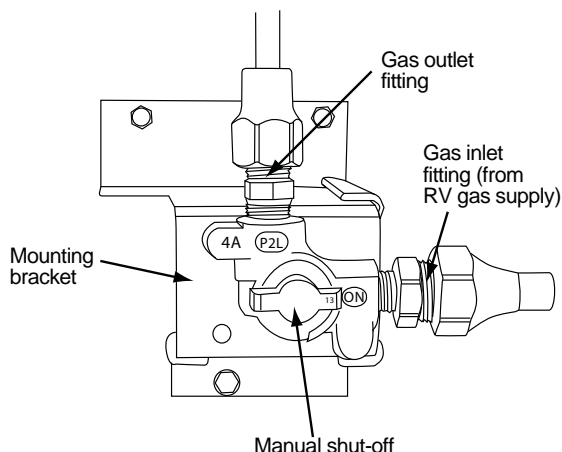
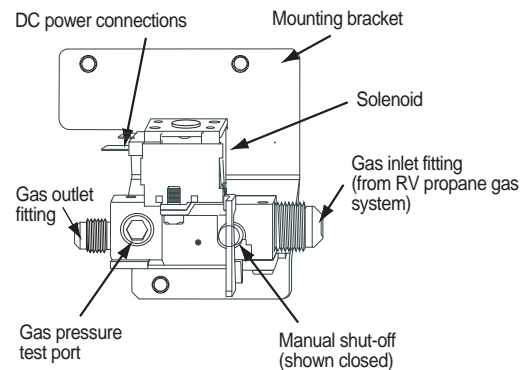

Figure 18. N500 manual shutoff valve
Figure 22. N41X/N51X solenoid gas valve
The manual shutoff valve controls the flow of propane gas from the RV propane supply to the gas valve-thermostat assembly. See Figure 18.
The solenoid gas valve, shown in Figure 22, controls the flow of gas from the RV gas supply to the burner. Integrated in the valve's body are a manual shutoff and pressure tap. The valve's manual shutoff is a spring-loaded, quarter turn, manually operated valve.
**For Steps 3 - 5, refer to Figure 18 (N500), or Figure 22 (N41X/N51X).**